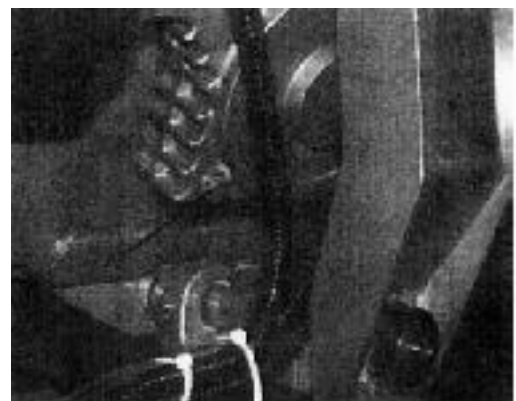

Fig.24
4. Drain the gear box by removing screw (A) Fig.24.
5. Replace screw (A) Fig.24 and lower the saw arm to its lowest position.
Occasionally lubricate the pivot bearings using waterproof grease at the two zerk fittings (C) Fig.24.